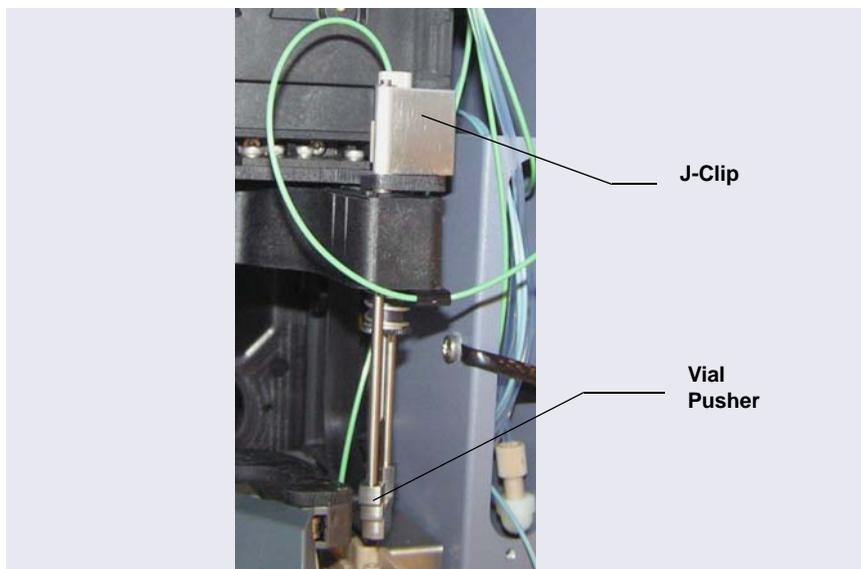

Figure B-36. J-Clip Installed on Vial Pusher
5. Verify that the J-clip is installed on the vial pusher (see Figure B-36).